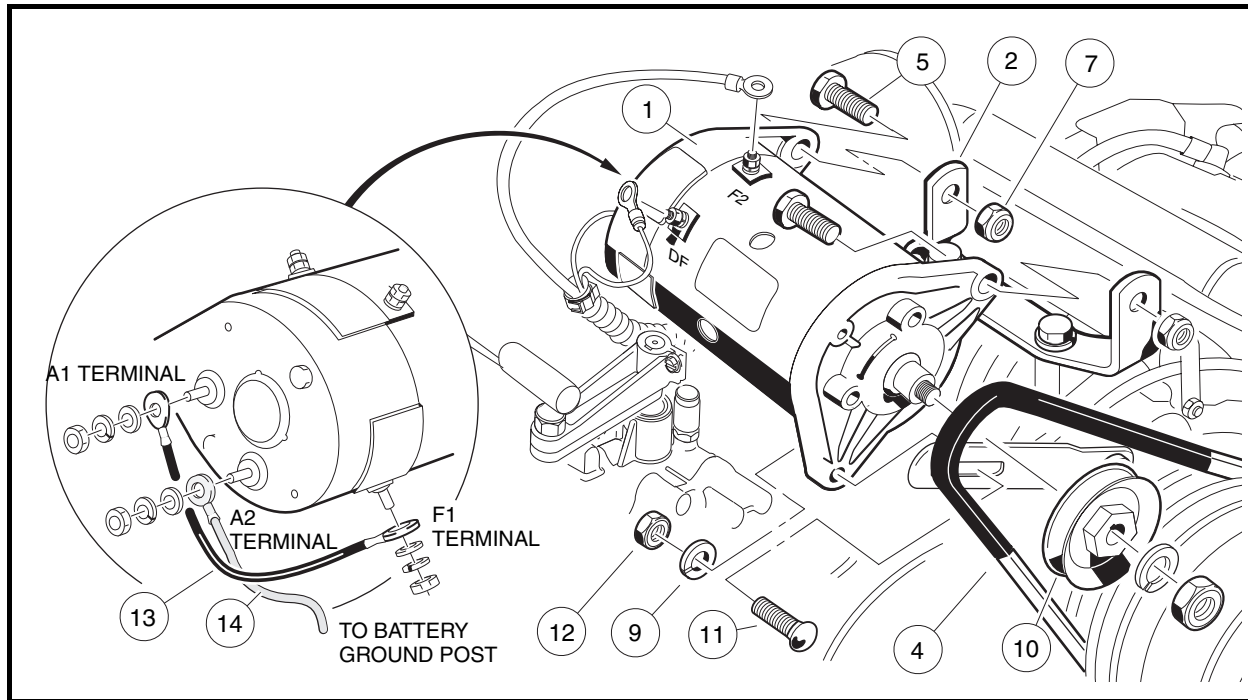

Figure 12-1 Starter/Generator Removal
3. Disconnect the wires from the starter/generator (1). Mark wires before disconnecting. Loosen the pivot nuts (7) and bolts (5) (**Figure 12-1, Page 12-2**).
4. Remove the mounting/adjustment nut (12), washer (9) and bolt (11). Lower the starter/generator and slip the belt (4) off the pulley (10).
5. Support the starter/generator so that when the pivot bolts are removed the starter/generator will not fall to the ground. Remove the two pivot nuts (7) and bolts (5) from the mounting bracket.